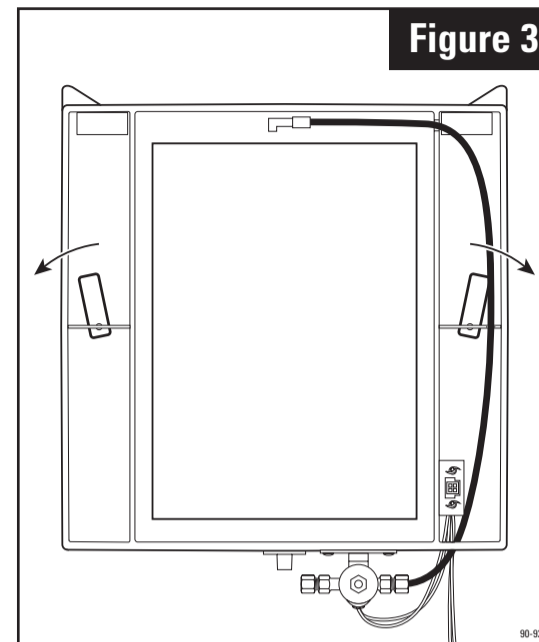

Figure 3
4. Rotate swing locks to secure base to duct. See **Figure 3**. Fasten base to duct using 4 sheet metal screws in holes provided.